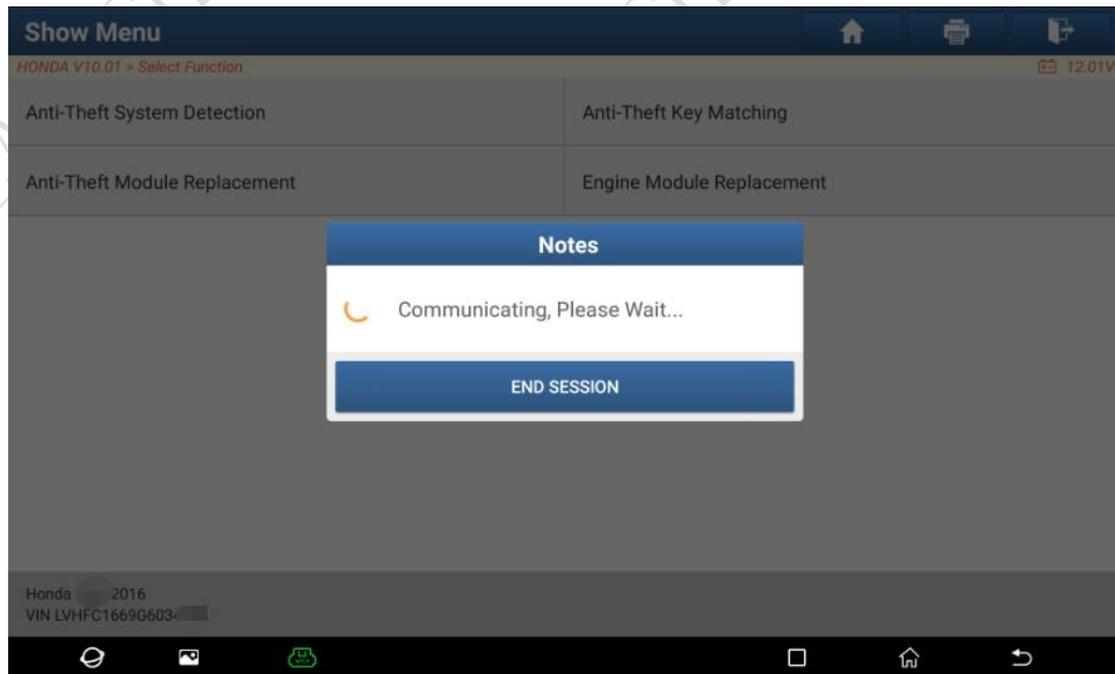

Figure 7
7. Performing initialization for the intelligent control unit and verify the checkout, as shown in Figure 7.